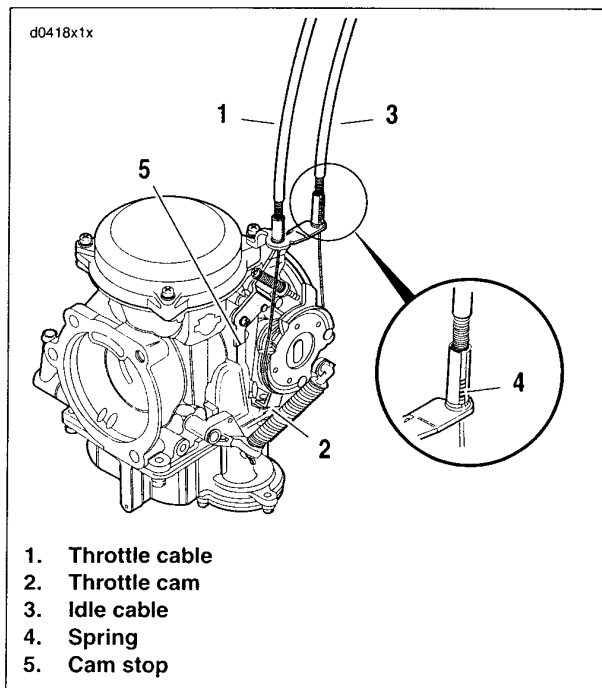

Figure 1-56. Idle Cable Connection
- b. Turn the throttle cable adjuster (2), lengthening the sleeve, until the throttle cam just touches the cam stop. See Figure 1-56.